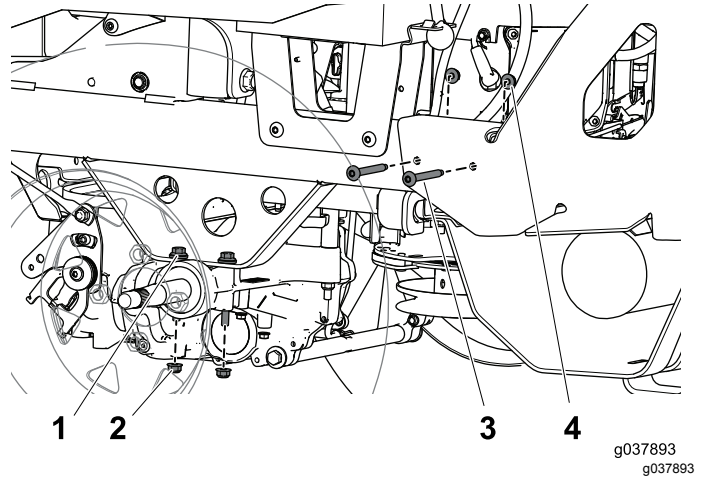

Figure 11
2. Remove and discard the bolts and nuts that secure the left side of the rear guard to the frame (Figure 11).
3. Remove and set aside the 2 flange nuts that secure the left drive assembly to the frame (Figure 11).